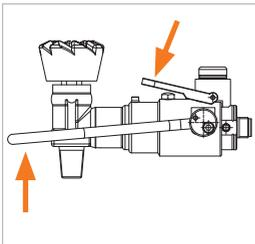

Figure 9
- ▶ Press and hold down the locking device (Pos. 8) and then fold the actuation unit (Pos. 1) upwards (Figure 9). The connection to the cylinder valve is released and the connector can be pulled straight back.